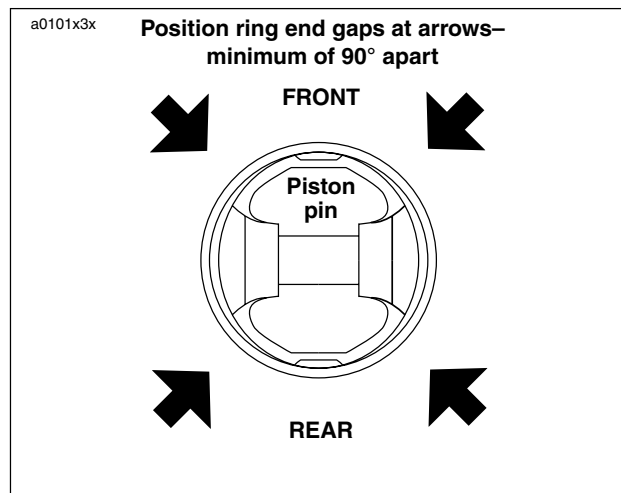

Figure 3-107. Ring End Gap Position
5. See Figure 3-107. Make sure the piston ring end gaps are properly positioned as shown.